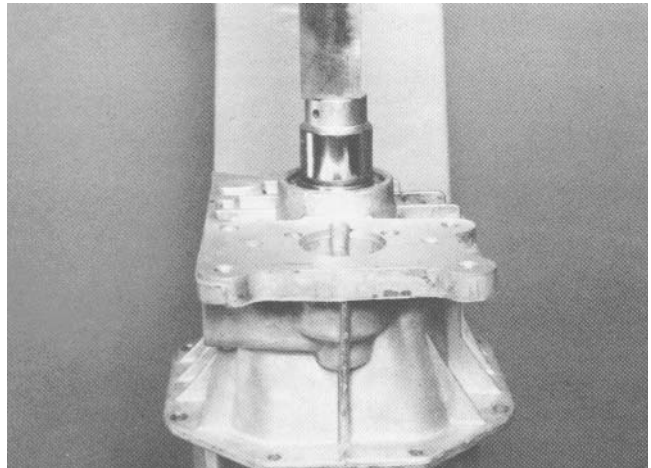

Figure 26
3. Put the front housing on a press. Using a press plate, push the pinion outer bearing cup into the housing until it bottoms in the housing (Fig. 26).